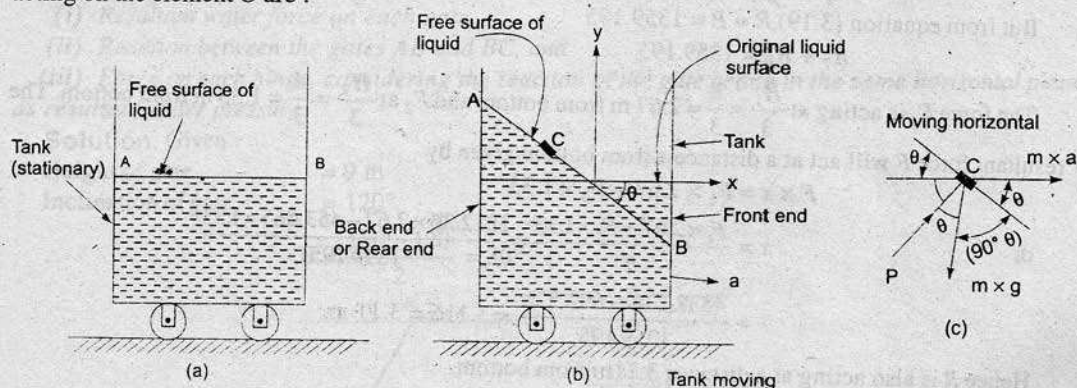

Fig. 3.43
3.8.1 Liquid Containers Subject to Constant Horizontal Acceleration. Fig. 3.43 (a) shows a tank containing a liquid upto a certain depth. The tank is stationary and free surface of liquid is horizontal. Let this tank is moving with a constant acceleration ' a ' in the horizontal direction towards right as shown in Fig. 3.43 (b). The initial free surface of liquid which was horizontal, now takes the shape as shown in Fig. 3.43 (b). Now AB represents the new free surface of the liquid. Thus the free surface of liquid due to horizontal acceleration will become a downward sloping inclined plane, with the liquid rising at the back end the liquid falling at the front end. The equation for the free liquid surface can be derived by considering the equilibrium of a fluid element C lying on the free surface. The forces acting on the element C are :